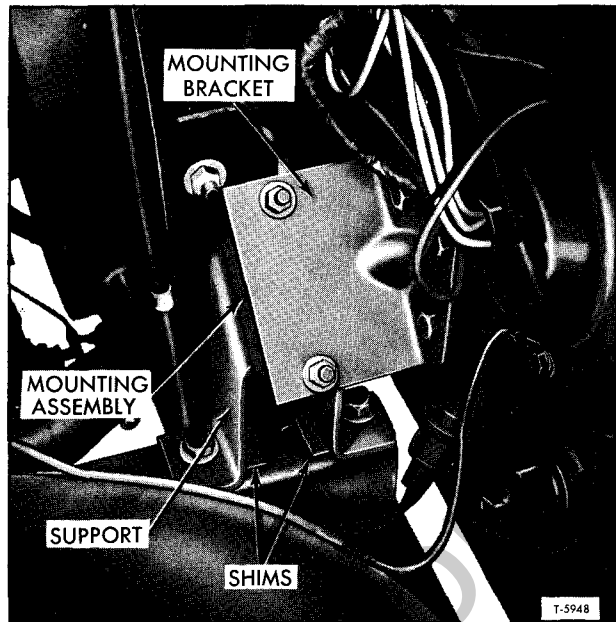

Figure 5—Radiator Shell Flexible Mounting (Typical for HM and JM80)
5. Remove attaching bolts (number of bolts depends on model) which attach each side of shell to radiator support mounting brackets (figs. 5 and 6), or remove bolts each side at mounting pad.
- NOTE: On some models, mounting bracket (fig. 5) is inverted 180 degrees.
3. Remove mounting bracket (fig. 5 or 6). In some cases bracket may be further disassembled for inspection.